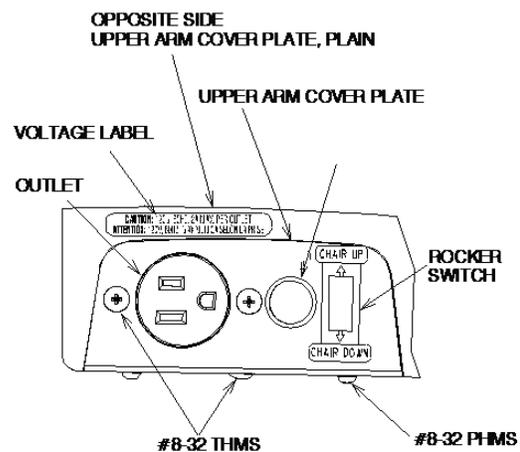
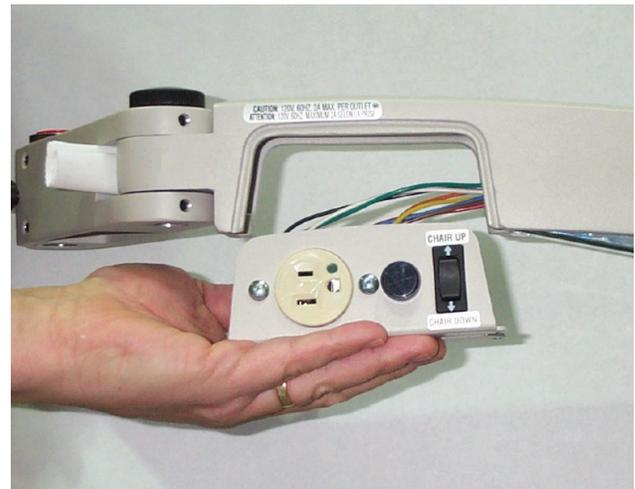

FIGURE 2
FIGURE 2A
2.6.1.2 Loosen the three Set Screws that lock the Arm Extension in place at the end of the Slit Lamp Arm. Loosen the Black Handle on top of the Slit Lamp Arm. Rotate Arm Extension so it is approximately 60 degrees from the side of the Upper Arm of the Slit Lamp Arm and tighten the Set Screws. Tighten the Black Handle on top of the Slit Lamp Arm. Remove Adjustable Handle and Plug Button from the Arm Extension and place them on the opposite side they were on. (See Figure 2) and (See Figures 2a, 2b, 2c, 2d page 9/10 details.)
3.1.7. The Outer Arm contains an outlet for Instrument power, and a Rocker Switch to control vertical movement of the chair. The Chair Control Cable (See Figure 2) must be installed. (Refer to Section 2.10). Depress the “UP” arrow on the switch to raise the chair. Depress the “Down” arrow to lower the chair.